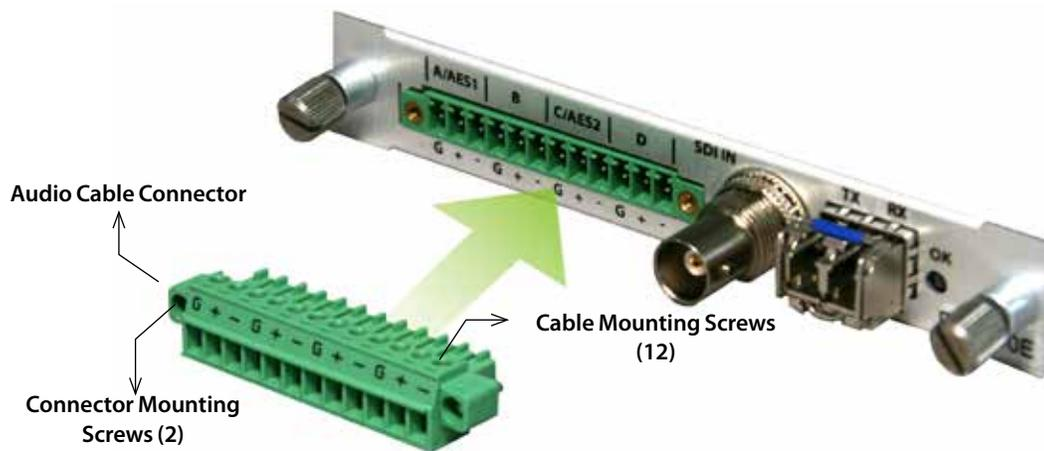

Figure 8. DLC150E Audio Cable Connector
6. Insert the audio cable connector into the module's cable connector as shown in Figure 8.
Use the cable mounting screws on the audio connector (see Figure 8) to secure the audio cable connections described in this section.